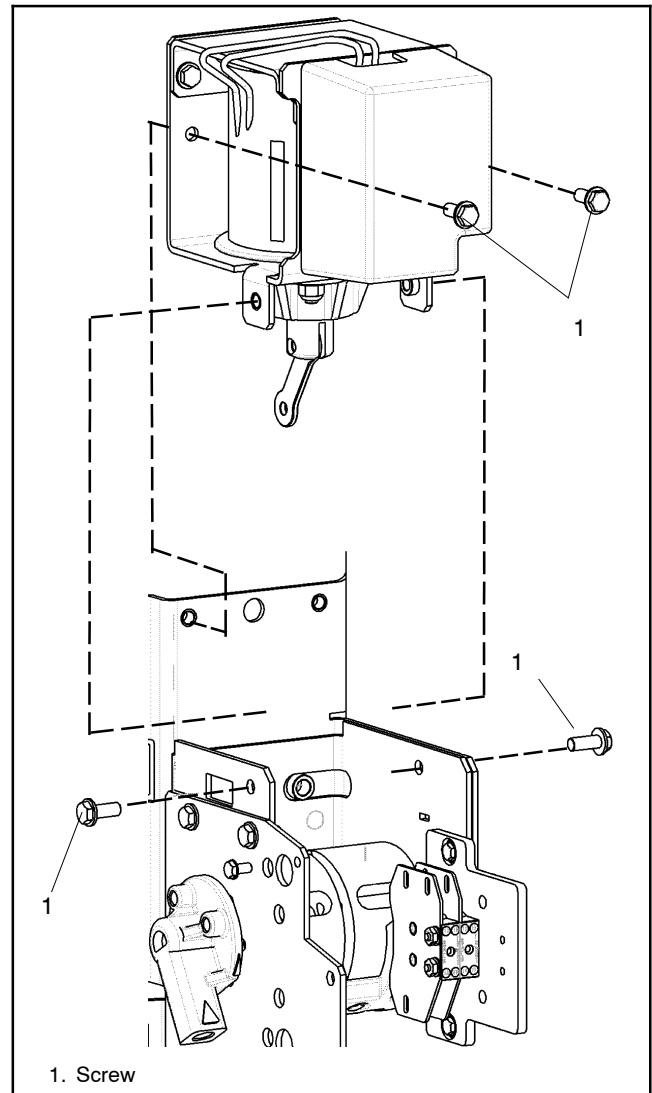

Figure 7-14 Solenoid Assembly
6. Remove the solenoid assembly. Use a 3/8 in. open-end or box wrench to remove four SEMS screws (two at the top, one on either side). See Figure 7-14.
8. Install the new solenoid assembly. Position the new solenoid assembly onto the mounting rail so that the two protrusions align with the holes in the solenoid assembly. The core link should be in the slot in the weight. Use a 3/8 in. open-end or box wrench to install four new 1/4-20 x 3/4 in. long SEMS screws (two at the top, one on either side). See Figure 7-14.